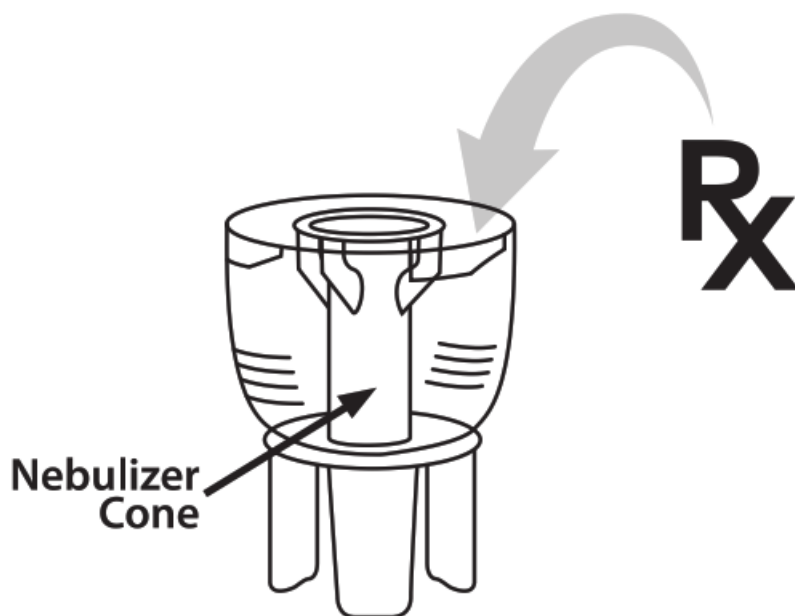

Figure 2
3. Fill the bottom section of the nebulizer with the medication prescribed by your physician. Be sure that the nebulizer cone is put inside the bottom section. (fig. 2)